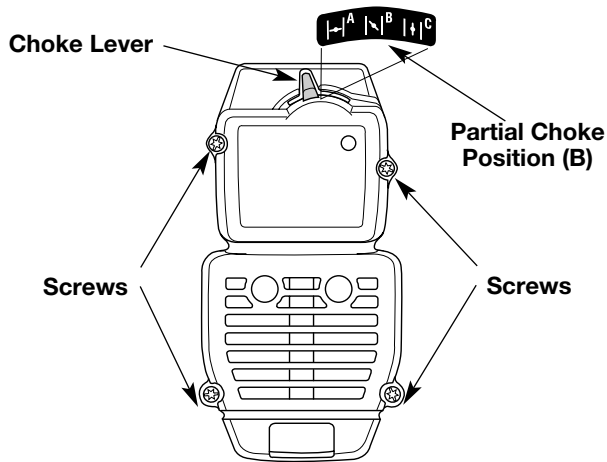

Fig. 24
NOTE: The choke lever must be in the **PARTIAL** choke position (**B**) (Fig. 24) to remove the air filter/muffler cover.
2. Remove the four (4) screws securing the air filter/muffler cover (Fig. 24). Use a flat blade or T20 Torx bit screwdriver.
NOTE: The choke lever must be in the **PARTIAL** choke position (**B**) (Fig. 24) to install the air filter/muffler cover.
2. Insert the four (4) screws into the holes in the air filter/muffler cover (Fig. 24) and tighten. **Do not over tighten.**